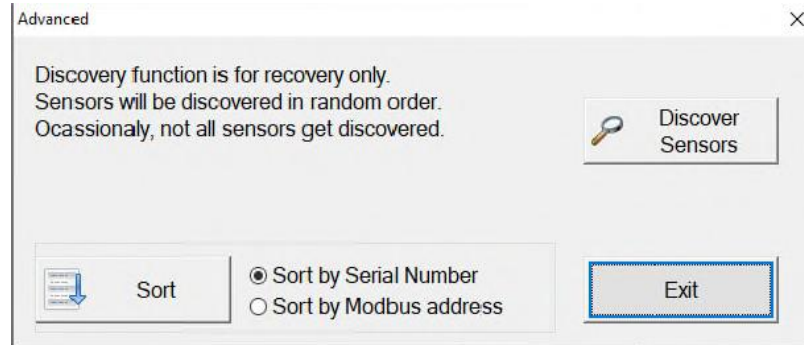

FIGURE 3-7 ADVANCED OPTIONS
The *Advanced Options* dialog (Figure 3-7) provides a sensor discovery feature. This feature should only be used for recovery.
- b. The *Sort* button in the *Advanced Options* dialog (Figure 3-7) can be used to sort sensors by ascending serial number or Modbus address.